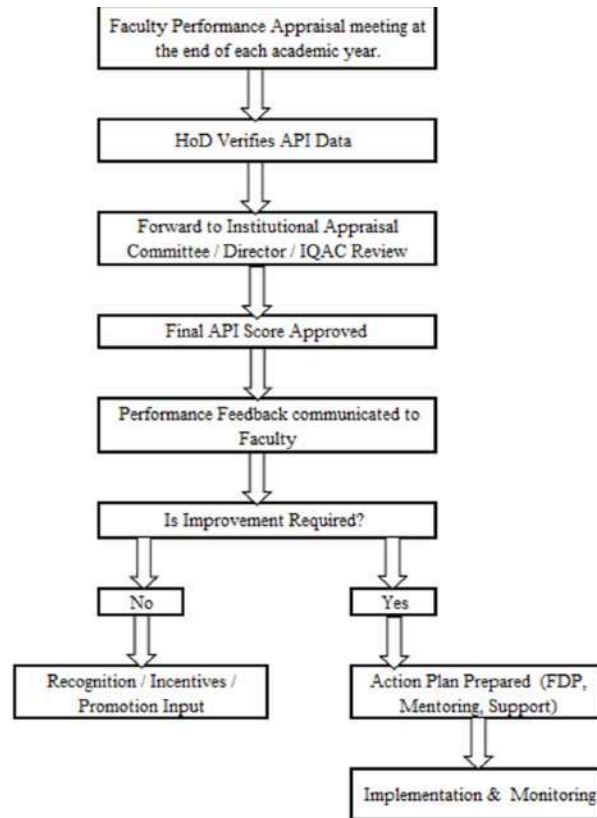

Figure 9.13.1: Faculty Performance Appraisal and Feedback Mechanism
- Action plan has been discussed, and its impact has been briefly explained in Criteria 2, Section 2.1 (I).
R. C. Patel Institute of Technology (RCPIT), Shirpur has established a structured and transparent Faculty Performance Appraisal and Development System (FPADS) to enhance teaching effectiveness, research productivity, professional growth, and institutional contribution. (Refer Figure 9.13.1)